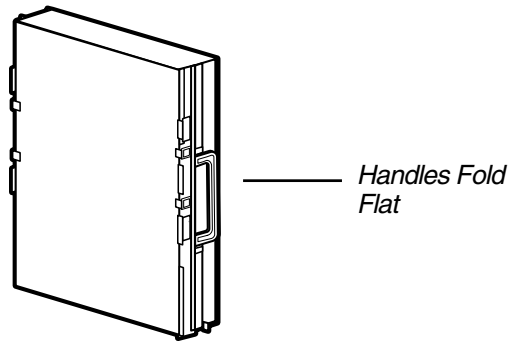

Figure 36 Collection Cell, Handle Folded
2. Reinstall the COLLECTION CELLS into the air cleaner. Ensure the handles on both of the COLLECTION CELLS are folded flat as shown in Figure 36.